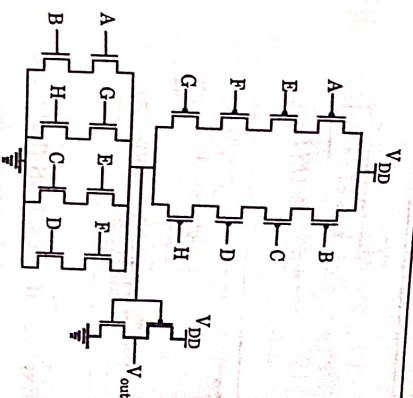
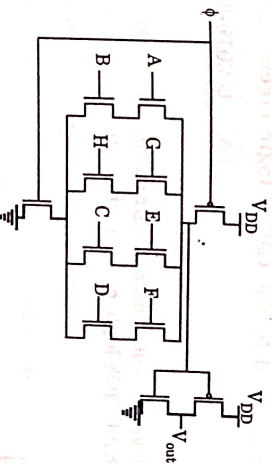

Fig. 3.9.1. Conventional CMOS logic gate.
Fig. 3.9.2. Domino CMOS logic style.
- Fig. 3.9.1 and Fig. 3.9.2 show the realization of the logic by using conventional CMOS and domino logic styles.